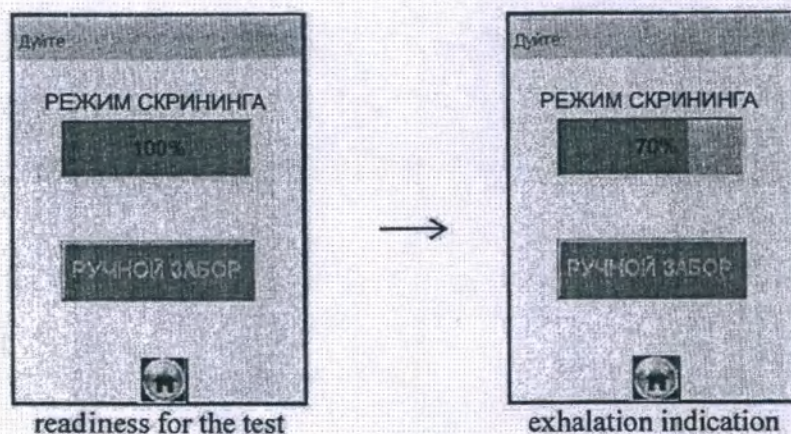

Figure 25 – Screening mode
A message indicating that you are ready for the test will appear on the touch screen (Figure 25, left).
2.12.6 If the subject provides the required flow of exhaled air, a reference sound signal sounds during exhalation, and the remaining exhalation time as a percentage is shown on the exhalation duration indicator (Figure 25, right). It is advisable to stop exhalation at the end of the reference sound signal. The analyzer will automatically take a sample of exhaled air from the funnel mouthpiece.